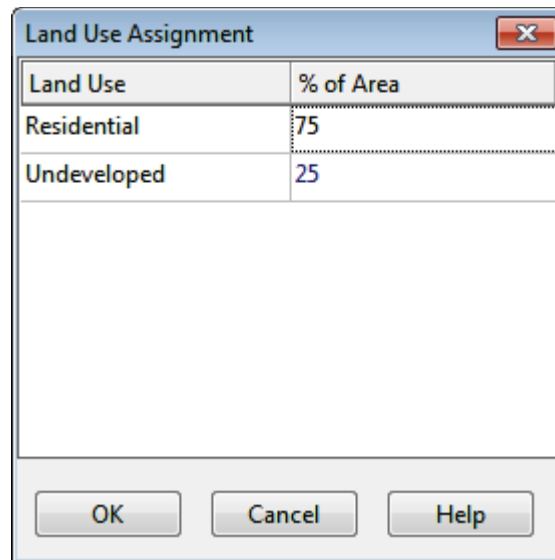

Figure 2-22 Land use assignment dialog
3. In the Land Use Assignment dialog that appears, enter **75** for the % Residential and **25** for the % Undeveloped (see Figure 2-22). Then click the **OK** button to close the dialog.